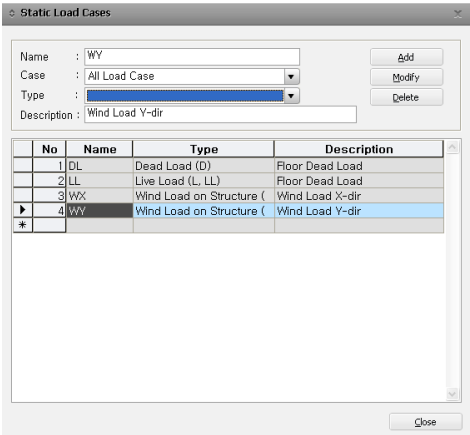

Figure 1.13 Definition of Load Cases
2. Enter "**DL**" in the **Name** field of the **Static Load Cases** dialog box (Fig.1.13).
6. Enter the remaining load cases in the **Static Load Cases** dialog box as shown in Fig.1.13.